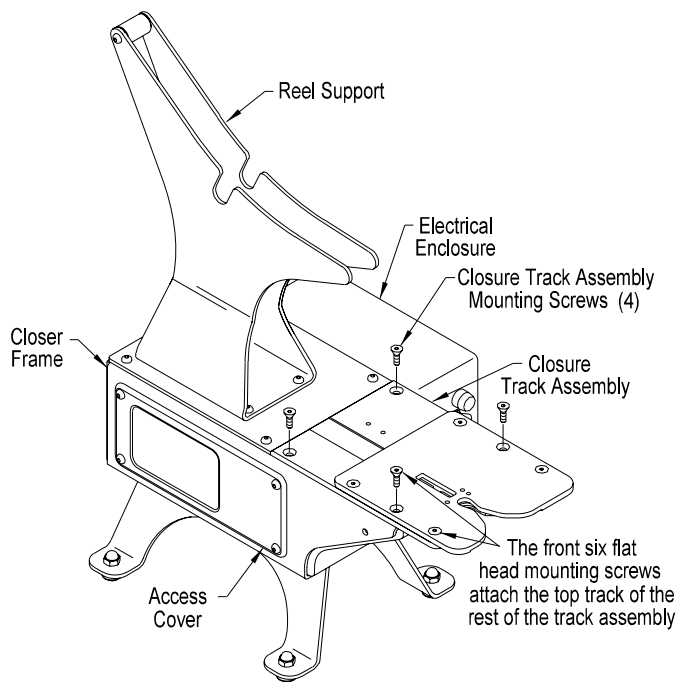

Figure 3.1
1. Remove the side access cover (Figure 3.1).
The top of the closure track can be removed from the closer while the closure track assembly remains attached to the closer mainframe. This can be done to expose the slot that the closures move through. The closure track can be inspected and cleaned if needed (Figure 3.1).